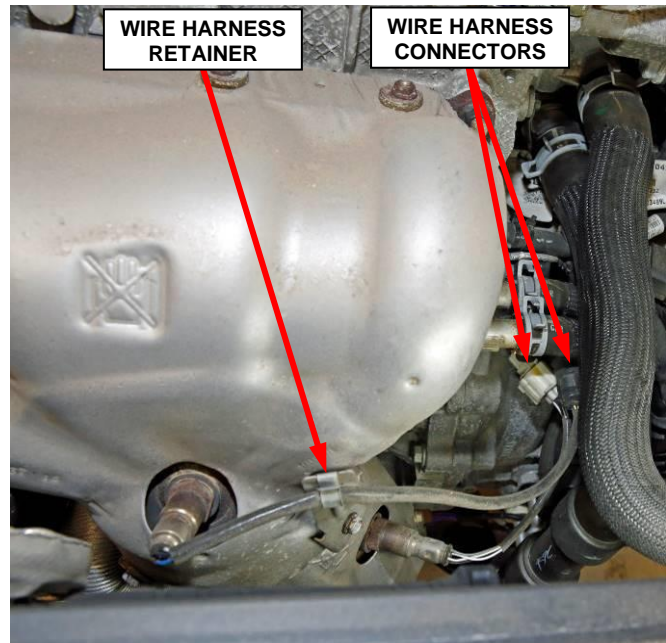

Figure 13 – Oxygen Sensors Electrical (UF) Chrysler 200, (BU) Jeep Renegade, (KL) Jeep Cherokee, (FB) Fiat 500X, (VM) Ram Promaster City
21. Disconnect the upstream oxygen sensor and downstream oxygen sensor wire harness connectors (Figure 13 or 14).
22. Disengage the upstream oxygen sensor wire harness from the retainer(s) (Figure 13 or 14).